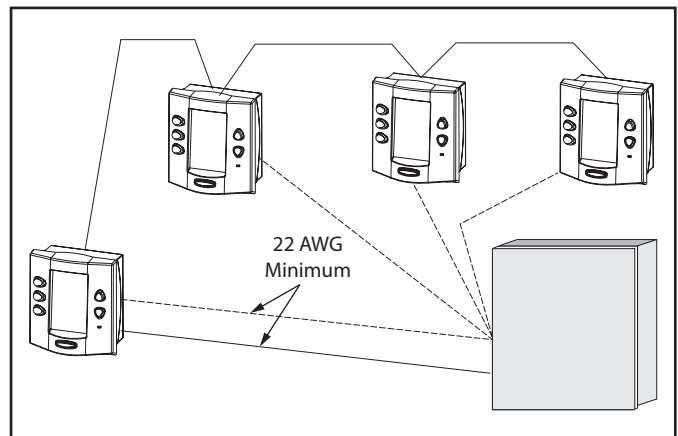

**Figure 25. Cleat Orientation**
5. Depending on what size sheet rock (16mm or 13mm), determine which side of the cleat is to be facing you (see Figure 25).